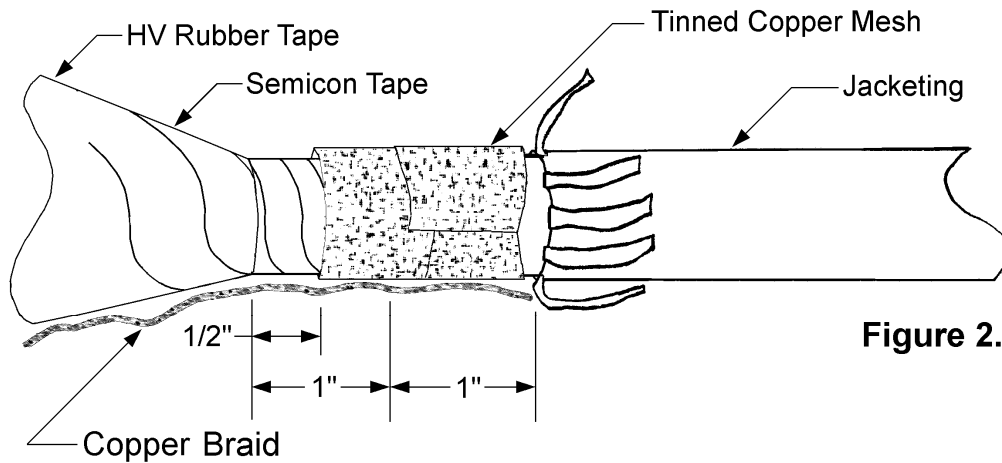

Figure 2.
4. After the semicon tape has been wrapped over the splice, tape two layers, half-lapped, of tinned copper mesh (Stock No. 736244) in the area between the cable jacketing and the hand applied semicon tape (Fig. 2). The tinned copper mesh should total 1-1/2 inches. This tinned copper mesh provides a pad so the ends of the flat strap will not dig into the cable insulation shield semicon. Perform the same process to the flat strap on the other side of the splice.